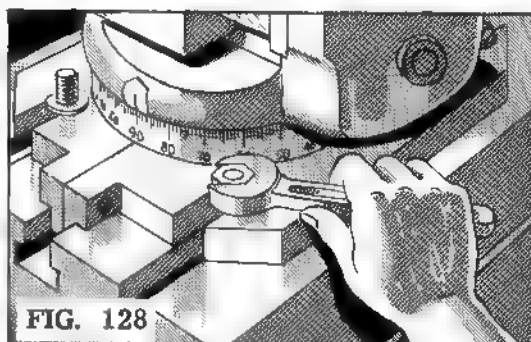

FIG. 128
5. Place a bolt in each end of the two table slots which correspond to the bolt slots in the base of the vise (Fig. 128). Be sure that the two back bolts can be placed in the table slots after the base is placed on the table.
7. Place a washer and a nut on each of the bolts and screw them on just far enough to hold the vise in place (Fig. 128).